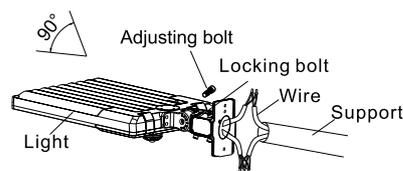

Figure 20
Step 2: Loosen the four bolts on A&D bracket, connect the wires correctly, and pull the wires into the poles. (Figure 20)
Step 3: Place the bracket into the pole and lock the four bolts. (Figure 20)
Notice: Adjustable angle is 0-90° (Figure 20)